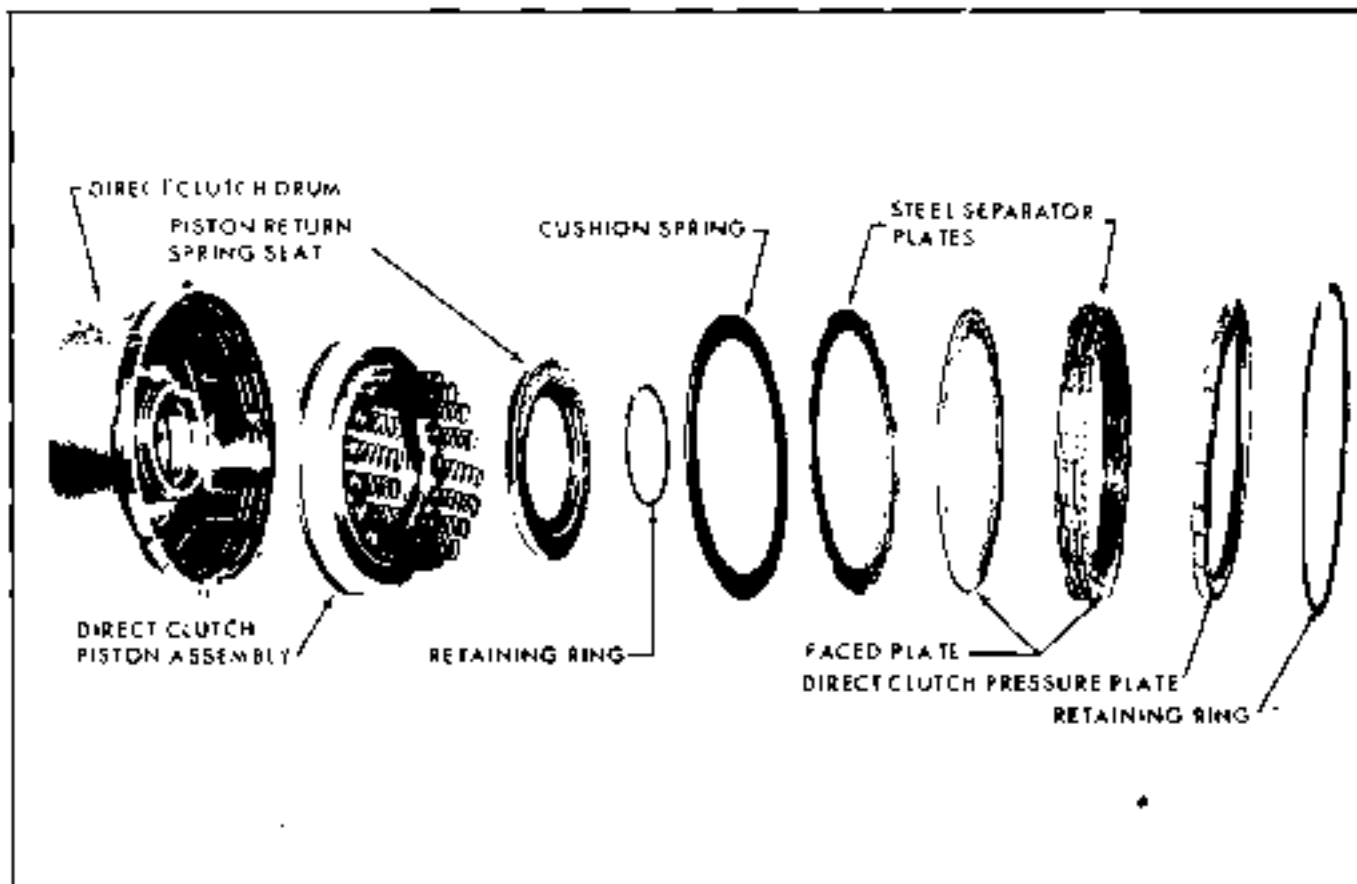

Fig. 7G-71 Exploded View of Direct Clutch Assembly
6. On V-8 models, install cushion spring, four (4) faced plates and four (4) steel separator plates, starting with cushion spring and alternating steel and faced plates; on 6 cylinder models, install cushion spring, three (3) faced and three (3) separator plates, starting with cushion spring and alternating steel and faced plates.
7. Install direct clutch pressure plate and retaining ring (Fig. 7G-66).
8. Install direct clutch drum-to-forward clutch drum needle roller bearing (Fig. 7G-65).
10. Install intermediate overrun roller clutch assembly, with point daub up (Fig. 7G-64).
11. Install intermediate overrun clutch outer race, retainer and front retaining ring (Fig. 7G-63)